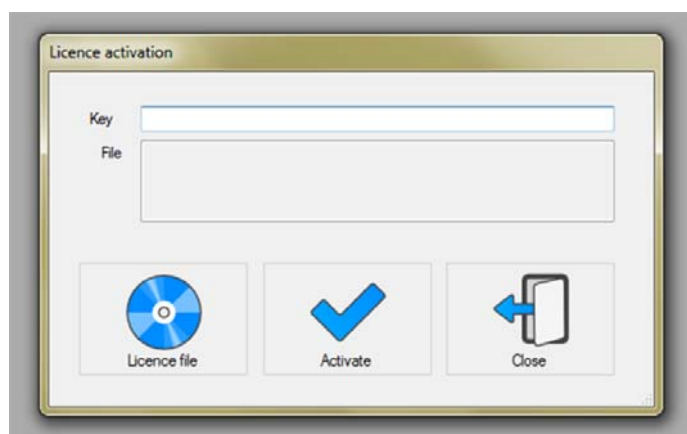

Fig. 7 Licence activation window.
STEP 1. In order to start the full version of the EtLog software, select the option [**File\Activate licence**] on the main menu, and then, in the dialogue window (Fig. 7), in the [Key] field, enter or paste (Ctrl+C, Ctrl+V) the key that was sent to you.